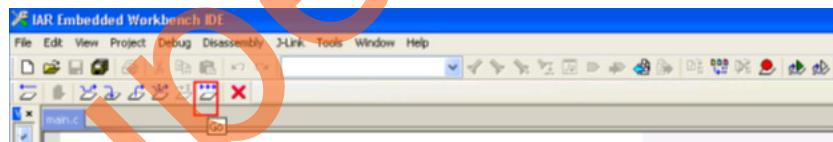

Figure 42 • IAR Workbench - Go Option
3. Click **Go** on IAR workbench to run the application as shown in Figure 42.